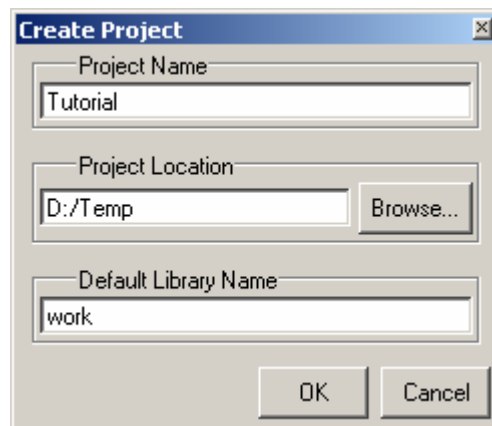

Figure 2: “Create Project” dialog
2. A “Create Project” window pops up (See Figure 2). Select a suitable name for your project; set the Project Location to D:/Temp as shown above, and leave the Default Library Name to work. Hit Ok.